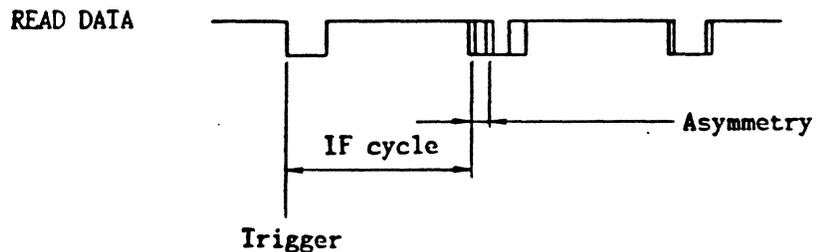

Fig. 413 Asymmetry Measurement
- (2) Start the spindle motor and load the work disk.
- (3) Shift the head to the innermost track.
- (4) Record one track with a constant 1F (WRITE DATA frequency at 125kHz).
- (5) Measure the asymmetry in accordance with Fig.413.